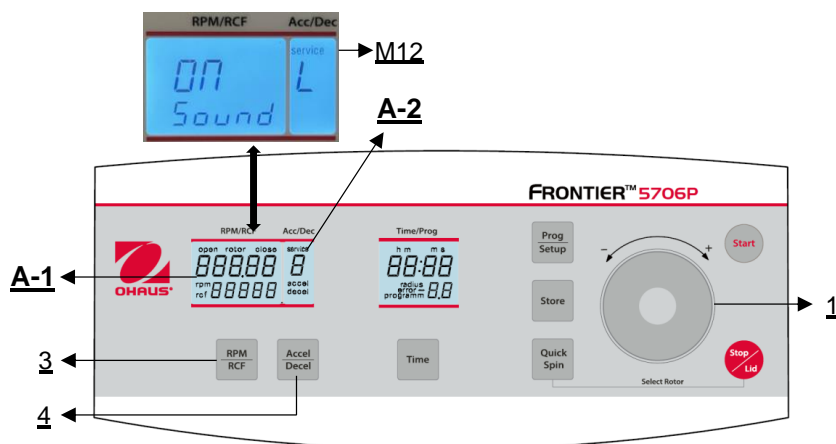

Figure 30
Proceed as described under point 4.1.1 to enter this program mode and then press the key "**Accel/Decel**" (4). In the display "**Acc/Dec**" (A-2) the word "**Service**" (M12) flashes. Now select the letter "**L**" with the touch wheel (1). As a result, the words "On Sound" appears in the display "**RPM | RCF**" (A-1). If you press the key "**RPM | RCF**" (3) now, the word "**On**" flashes and you can switch off the sound with the touch wheel (1) (see Figure 30).